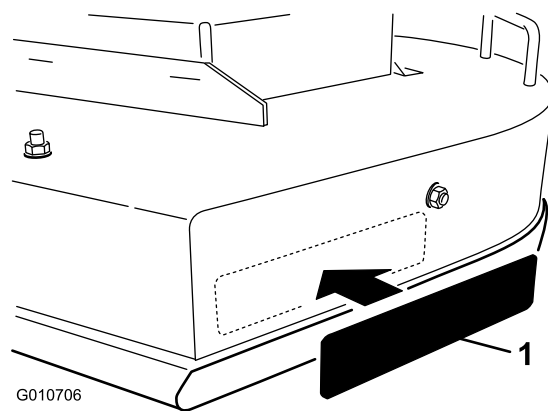

Figure 11
15. Remove the backing paper and apply decal to the discharge side of the mower (Figure 11). Smooth it from the center to the edges to remove any air bubbles.